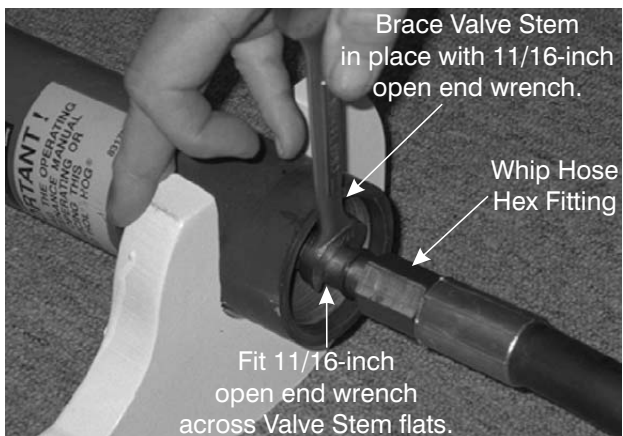

Figure 11-16. Hold Valve Stem in Position
3. Fit an 11/16-inch open-end wrench across the exposed flats of the Valve Stem as shown in Figure 11-16.
4. Brace the wrench against the edge of the End Cap and pry the stem outward with enough force to prevent the Valve Stem from pulling back into the End Cap as shown in Figure 11-16.